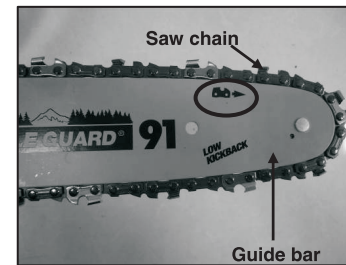

Fig.2C
5. Place the saw chain in the slot of the guide bar, making sure the saw teeth are facing the correct direction by matching the arrow on the guide bar ( Fig. 2C)